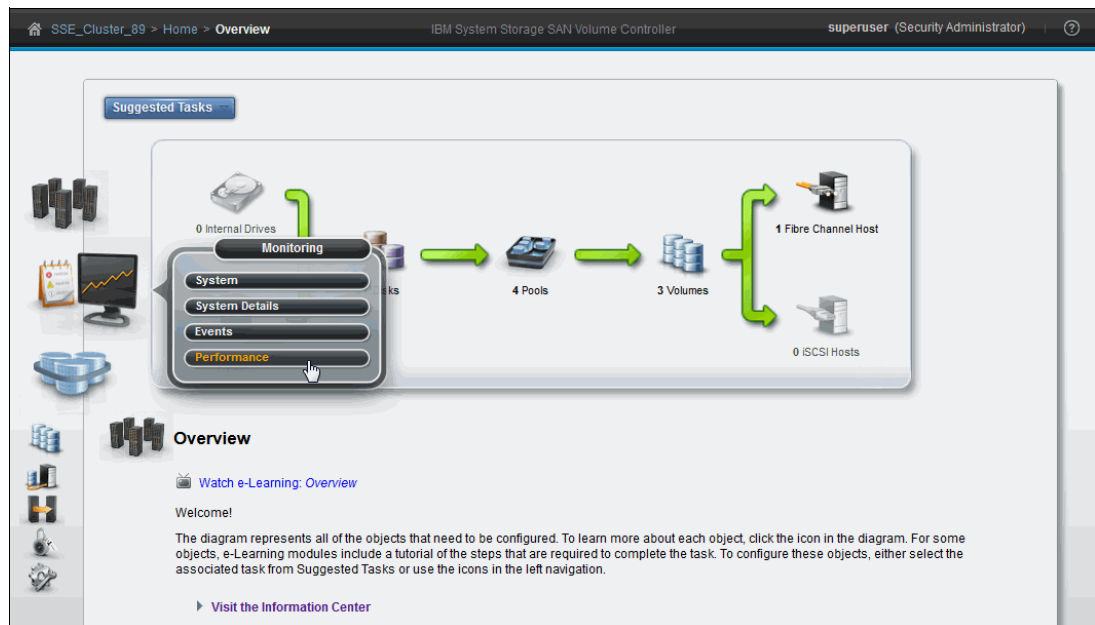

Figure 13-152 Starting the performance monitor panel
2. Select **Monitoring** $\varnothing$ **Performance**, as shown in Figure 13-152.